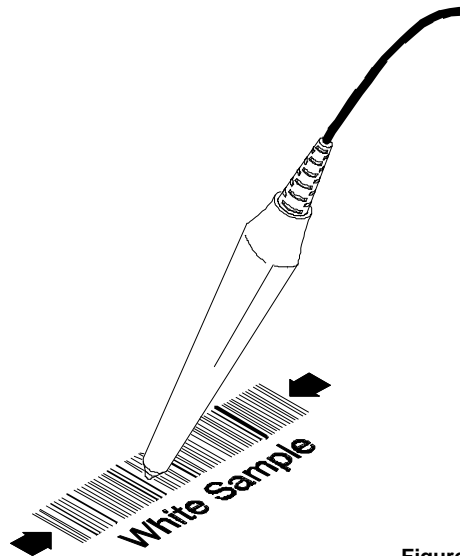

Figure 3
- 3) Place the tip of the BCR on the white space to the left or right of the bar code. Drag the BCR smoothly and lightly across the bar code. Do not lift the tip of the BCR from the surface of the bar code. See Figure 3.